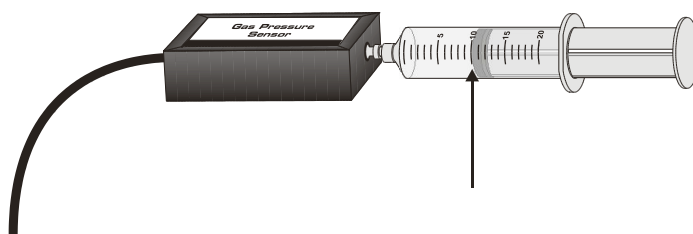

Figure 1
The primary objective of this experiment is to determine the relationship between the pressure and volume of a confined gas. The gas we use will be air, and it will be confined in a syringe connected to a Gas Pressure Sensor (see Figure 1). When the volume of the syringe is changed by moving the piston, a change occurs in the pressure exerted by the confined gas. This pressure change will be monitored using the Gas Pressure Sensor. It is assumed that temperature will be constant throughout the experiment. Pressure and volume data pairs will be collected during this experiment and then analyzed. From the data and graph, you should be able to determine what kind of mathematical relationship exists between the pressure and volume of the confined gas. Historically, this relationship was first established by Robert Boyle in 1662 and has since been known as Boyle's law.
- a. Move the piston to position the front edge of the inside black ring (see Figure 1) at the 4.0-mL line on the syringe. Hold the piston firmly in this position until the pressure value stabilizes.